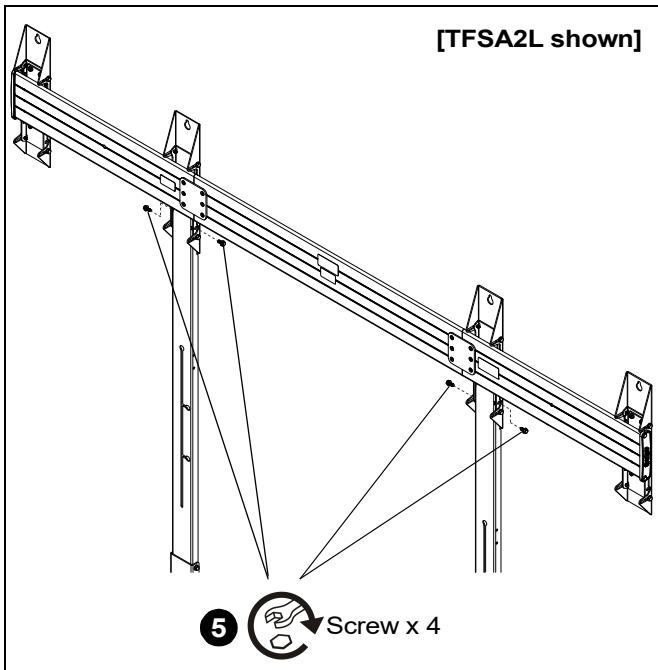

Figure 20
8. Install four 1/4-20 x 1/2" hex screws to secure the brackets to the top uprights. (See Figure 20)